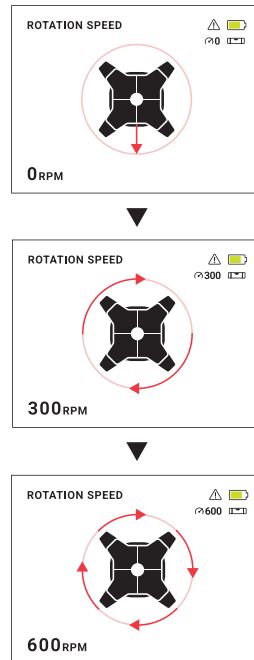

Fig.9
- The LCD screen will display the RPM when setting the speed (Fig.9). Once set, the following icon will be displayed on the LCD screen of the laser level and remote control with the current RPM:  **600**